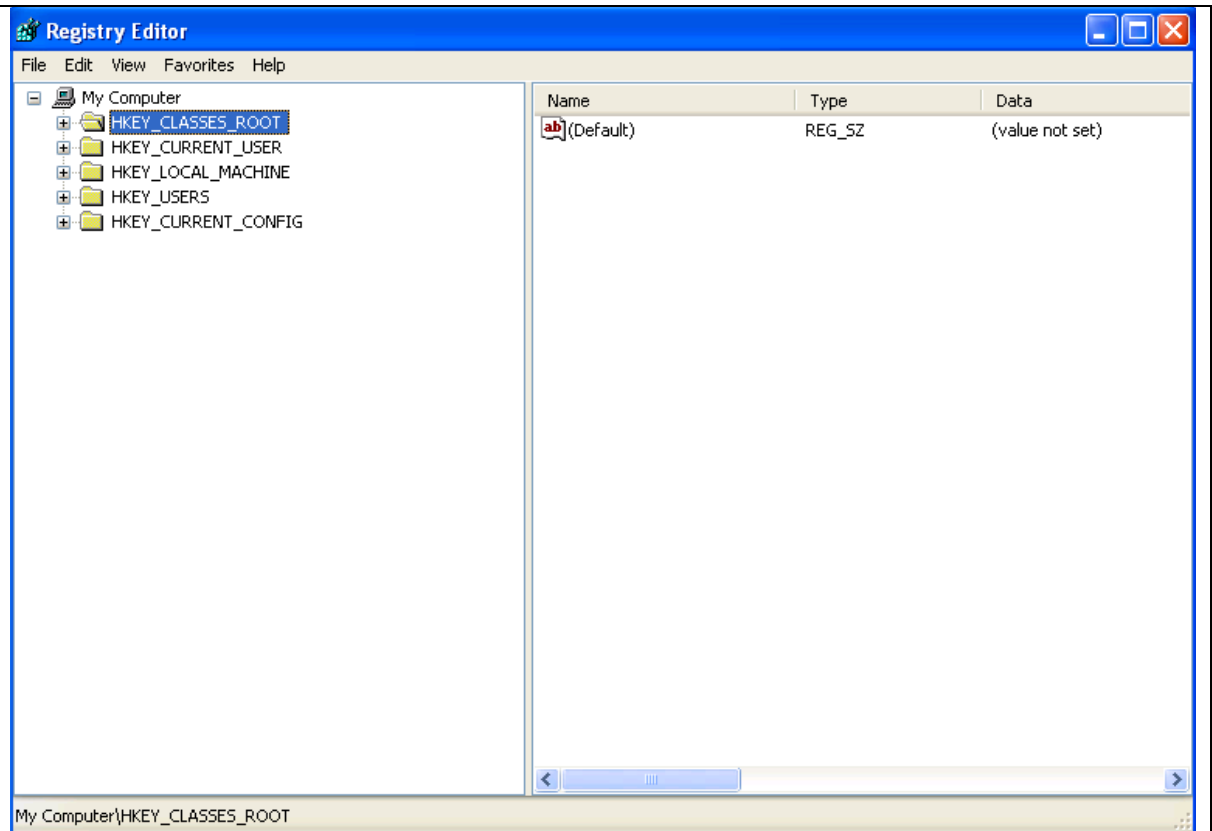

Figure 60 - Registry Editor
2. The **Registry Editor** (Figure 60) is launched.